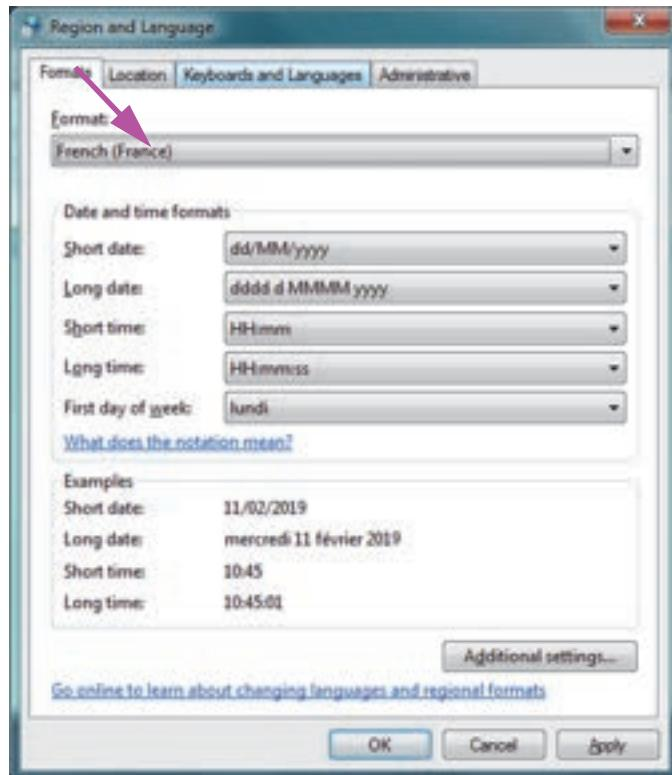

Figure C-5. Region and Language Screen—New Language Displayed
7. After selecting the new language, the drop-down list closes and the newly-selected language then appears in the Format drop-down box. In the example shown, **French** is selected. The Region and Language screen now displays French (France) in the Format drop-down box (see Figure C-5).